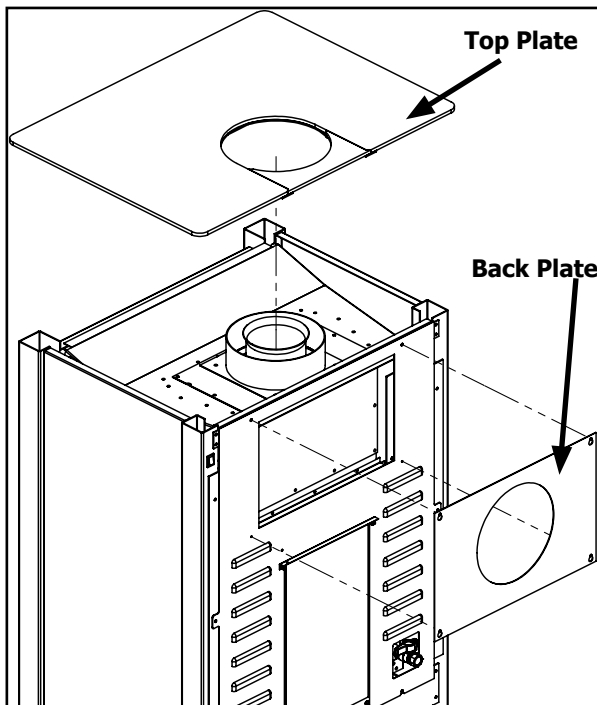

Figure 17. Vent Conversion - Step 1
**Step 1:** Using a T20 screwdriver loosen the four screws retaining the back plate and unhook it. Then remove the Top Plate by simply lifting up as shown in Figure 17.